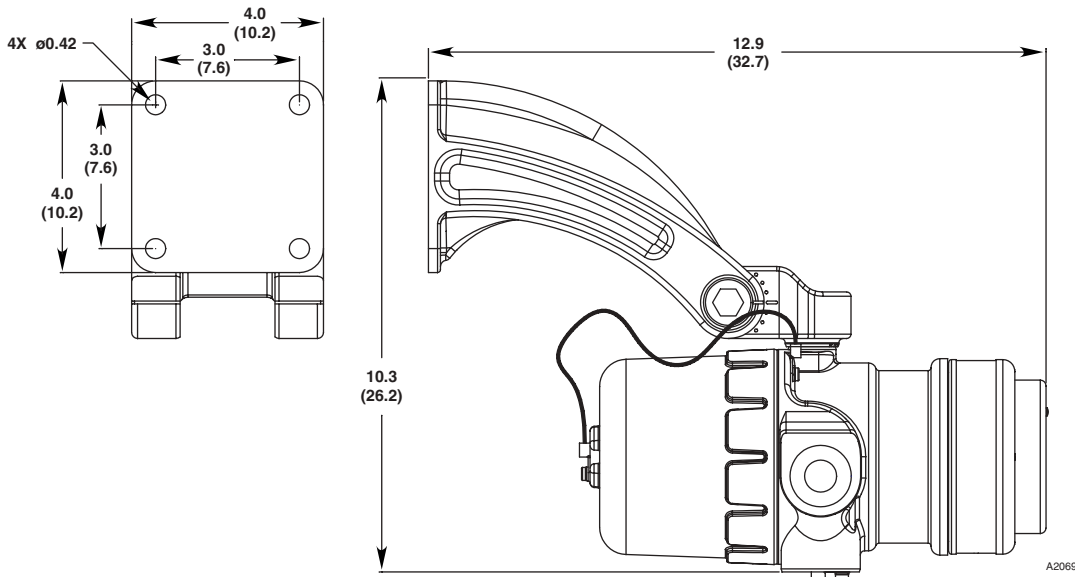

Figure 3—Q9033B Mounting Bracket Dimensions in Inches (cm)
1. Install the swivel mounting bracket assembly on the wall or instrument mount. The installation surface should be free of vibration and suitable to receive 1/4 inch (M6) screws with a length of at least 1 inch (25 mm). Refer to Figure 3 for dimensions.